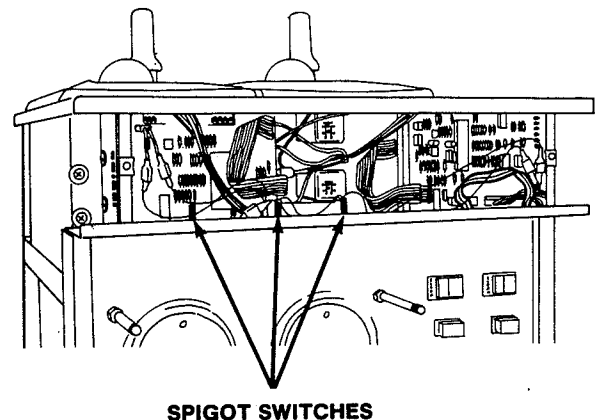

Figure 56. Replacing Spigot Switch
4. Push spigot switch down and out. (Fig. 56).